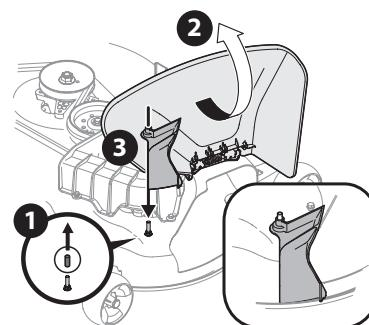

Figure 19
- Remove the deck pin rubber protective cap, 1 in Figure 19.
3. Raise the chute deflector (2) on the deck and hold it while you install the chute adapter (731-10133) (3) onto the deck as shown in Figure 19 on page 8.